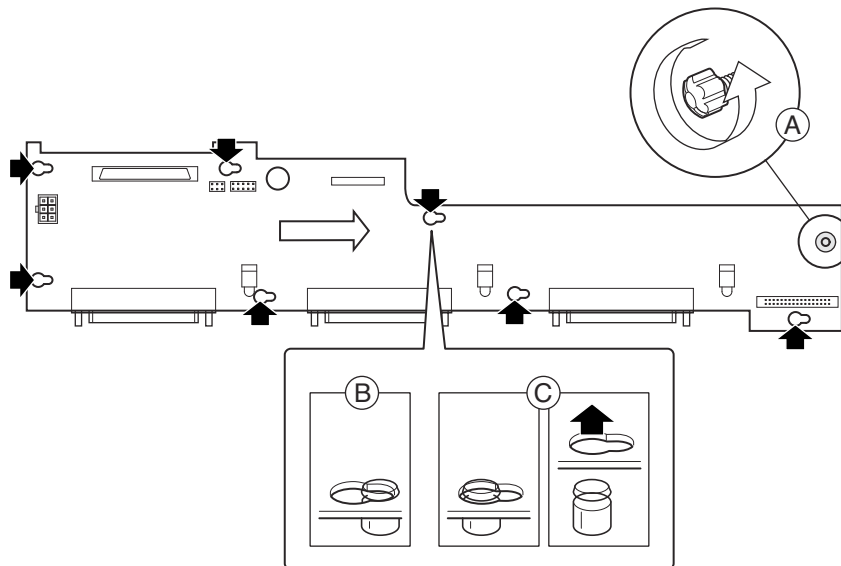

FIGURE 5-42 Removing the SCSI Backplane
To remove cables, remove the cover and refer to Figure 5-40, Figure 5-41, and Figure 5-42 while following these steps:
9. Remove the SCSI backplane board (this must be done to access the USB ribbon cable), while referring to Figure 5-42.
- b. Remove the blue thumbscrew (A) from the right side of the backplane.
To replace cables, remove the cover and refer to Figure 5-40, Figure 5-41, and Figure 5-42 while following these steps: